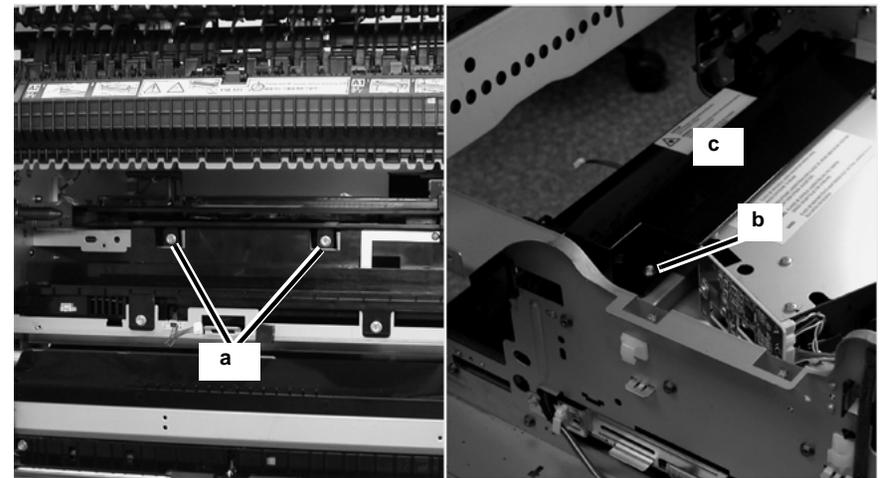

Figure 15 Removing The Cover
17. Remove the ROS Cover (Figure 15).
- a. Remove the Screws (2) on the left side of the cover.
- b. Remove the top Screw (1).